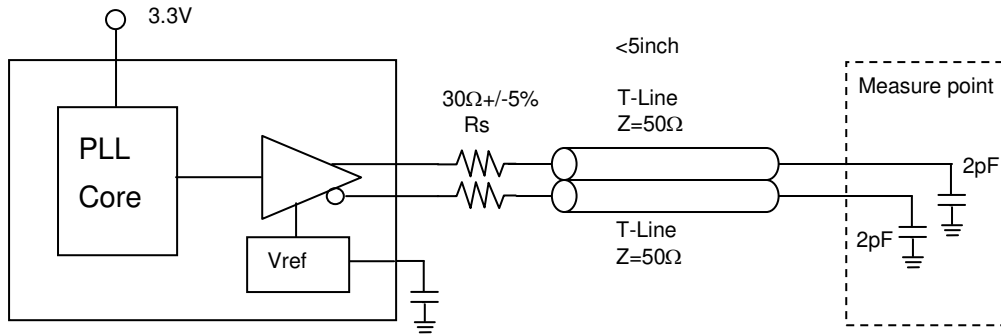

Figure.1 CLK1 Load condition
| Output Load Condition           | CL1            | Pin: CLK1p,CLK1nSee Figure 1 |     |     |     |      |
(1) CLK1p/1n:148.5MHz, CLK2=108MHz,CLK3/4=36.864MHz,REFOUT=27.0MHz
(2) CLK1p/1n: Figure1, CLK2-4: Cp1=15pF, REFOUT:Cp2=25pF
(2) Measured with load capacitance of 25pF
(3) Measured with load capacitance of 15pF
(4) Measured with load condition shown in Figure.1
(6) 16ms accumulate with higher than 10GSa/s.